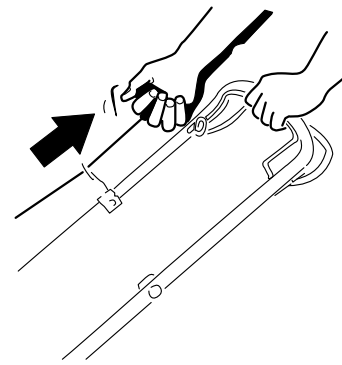

Figure 16
2. Pull the recoil-start handle (Figure 16).
**Note:** When you pull the recoil-start handle, pull it lightly until you feel resistance, then pull it sharply (Figure 16). Allow the rope to return to the handle slowly.
- To engage the self-propel drive: squeeze the self-propel-drive bar toward the handle and hold it (Figure 16).